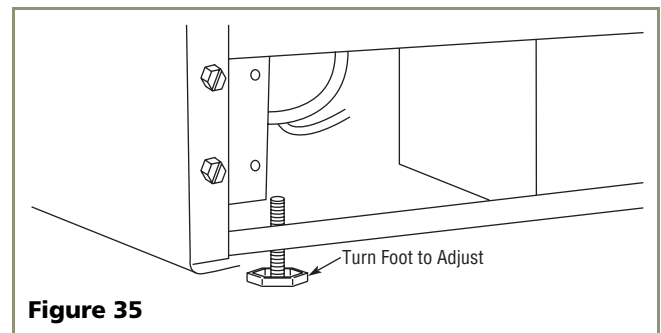

Figure 35
2. If the ice maker is not level, adjust the feet on the corners of the unit as necessary (see **Figure 35**).